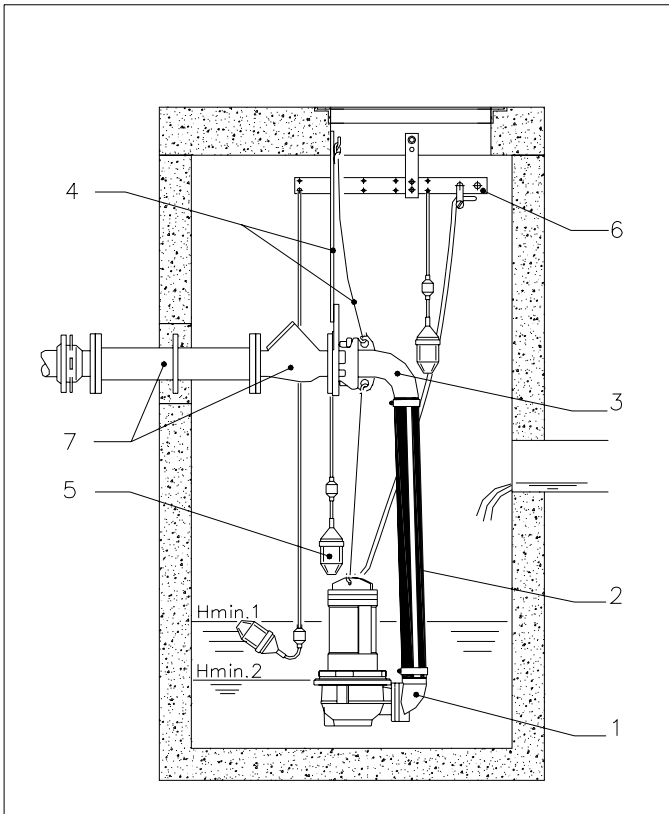
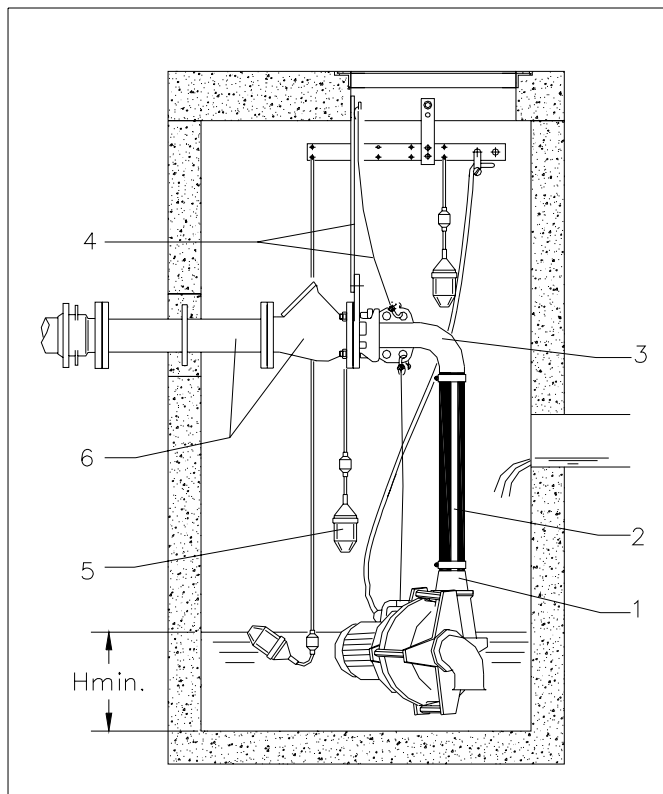

Fig. 6.1
Fig. 6.2
The RD20 pumps will have a vertical position, see Fig. 6.1. All other RD pumps are horizontally placed, see Fig. 6.2.
- Check that the motor is adequately cooled. The motor housing should be at least 2/3 submerged for continuous operation at full load (see Hmin.1 Fig. 6.1).
For interrupted level controlled operation, less cooling is required. We recommend not to run the pump with the water level below the top of the volute in order to avoid air being drawn in (see Hmin.2 Fig. 6.1).